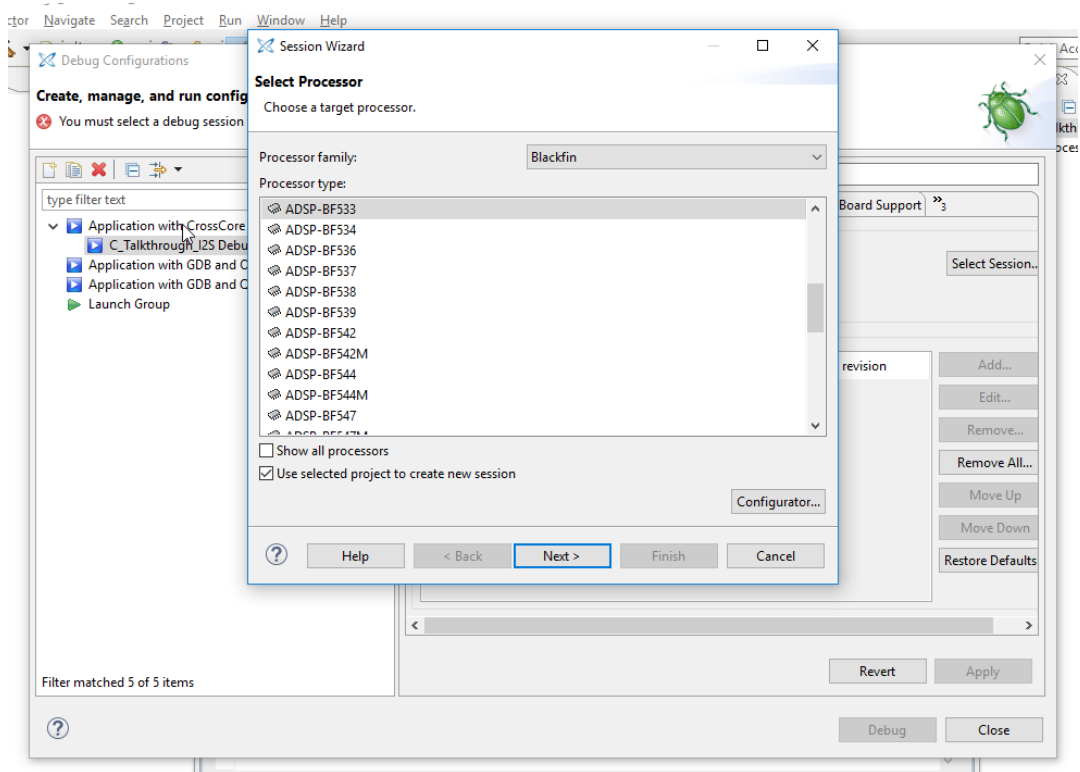
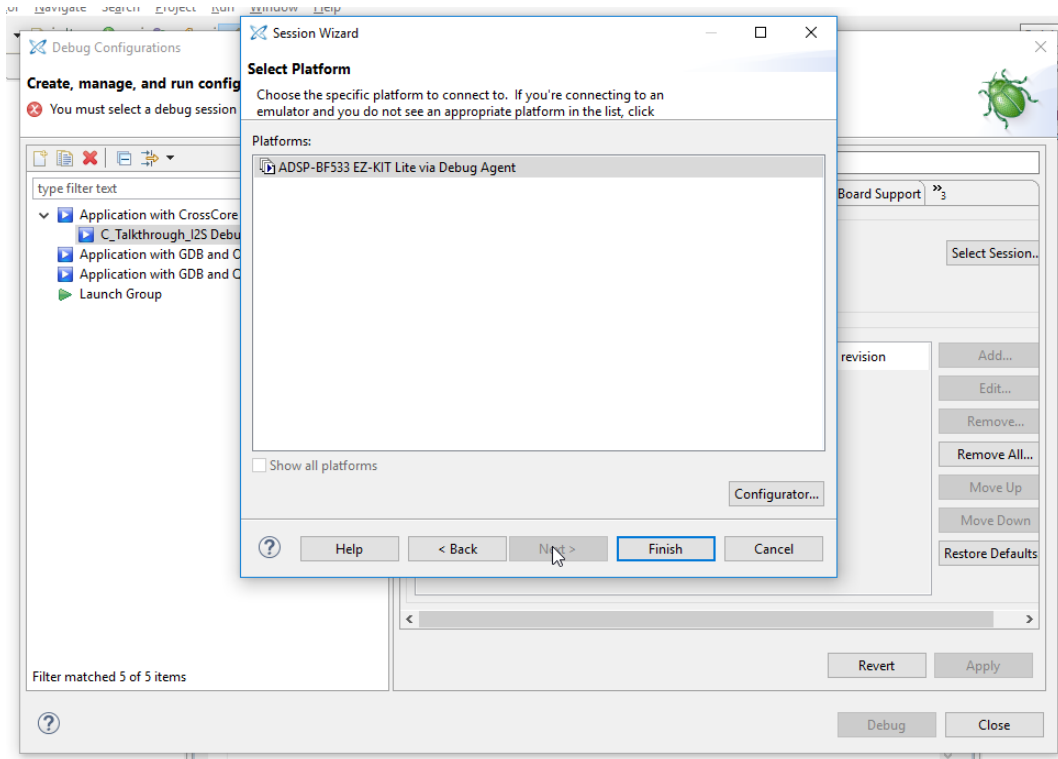

Figure 14 Selecting the proper processor
Figure 16 Finalizing the procedure
- b. In the wizard select the proper processor and debug target (Figure 14 - Figure 16)